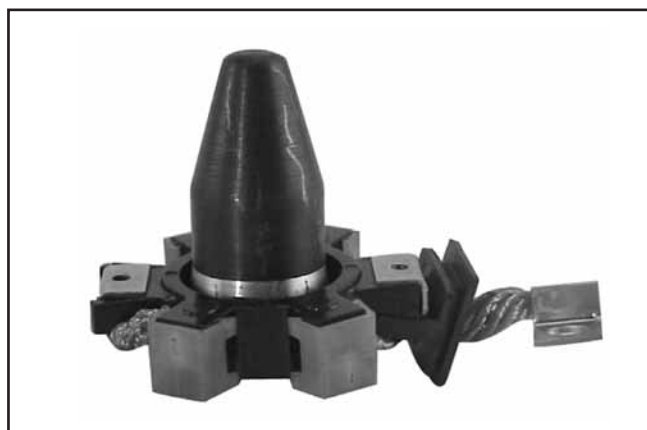

Figure 7-63. Brush Installation Tool with Extension.
- c. Install the brush springs and snap on the four retainer caps. See Figure 7-63.